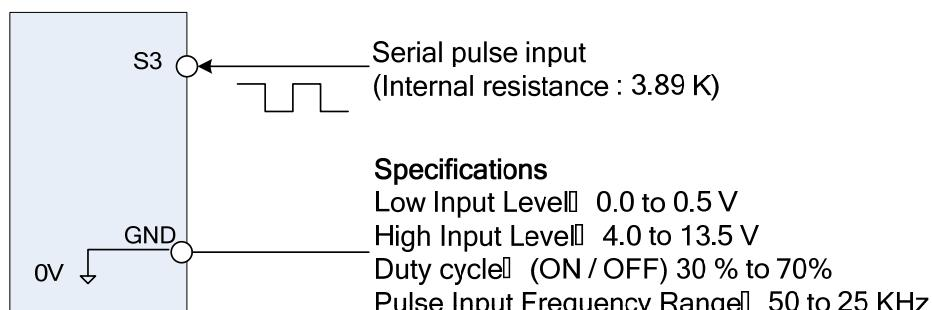

Figure 4.3.5 Frequency reference from pulse input
(4) 00-05/00-06=4
(5) 00-05/00-06=5
(6) 00-05/00-06=7
- To use this function a pulse train input is required to be connected to the PI input and GND, please refer to the photo as Fig.4.3.5. PI input terminal, built-in resistance, is not required to connect the resistance if open collector input mode is used